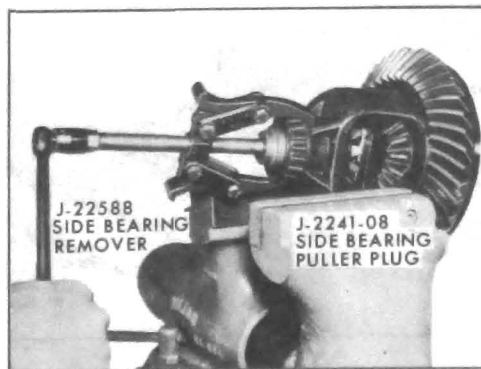

Figure 40-94 - Removing Differential Side Bearings
1. If differential side bearings are to be replaced, insert Remover Adapter J-2214-8 in center hole and pull bearing using Puller J-22588. See Figure 40-94.